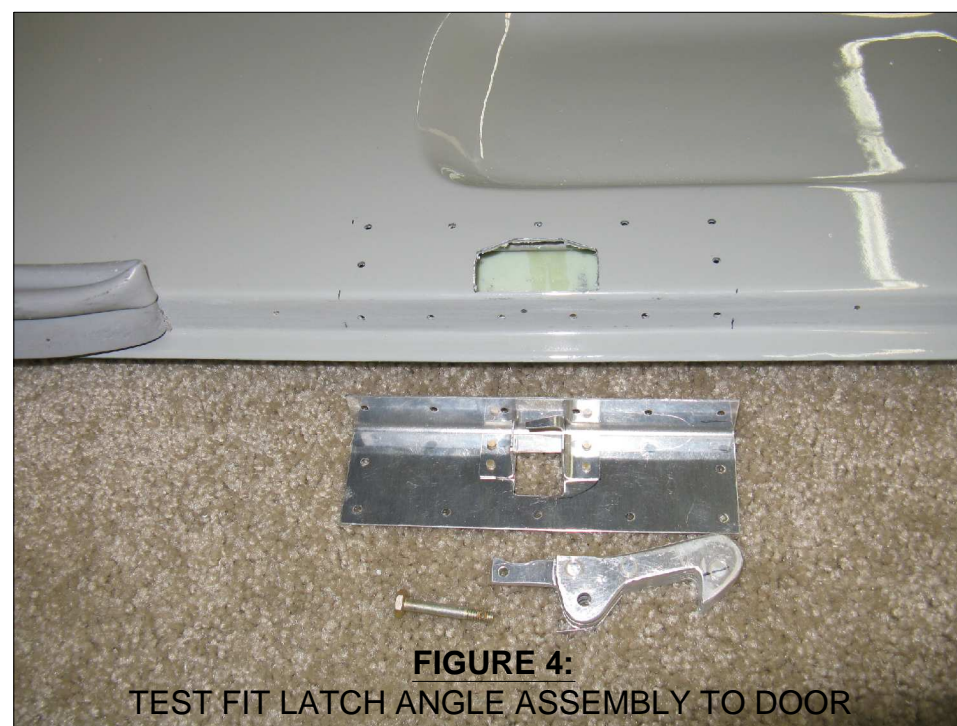

FIGURE 4:
Step 5: Test fit the C-1021 Latch Angle Assembly to the C-1002 Door as shown in Figures 4 and 5.